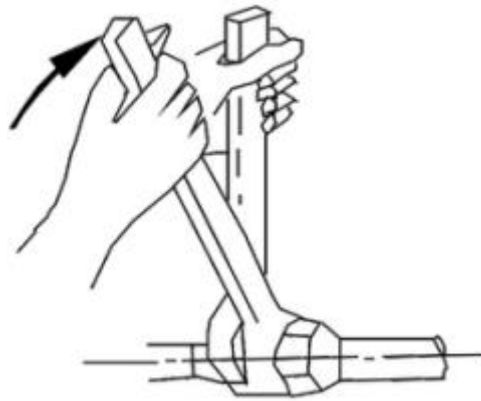

Figure 6
- When connecting the water inlet and outlet pipes, use two pipe wrenches to adjust the two parts of the pipes, and make sure the water inlet and outlet pipes do not twist (see Figure 6).